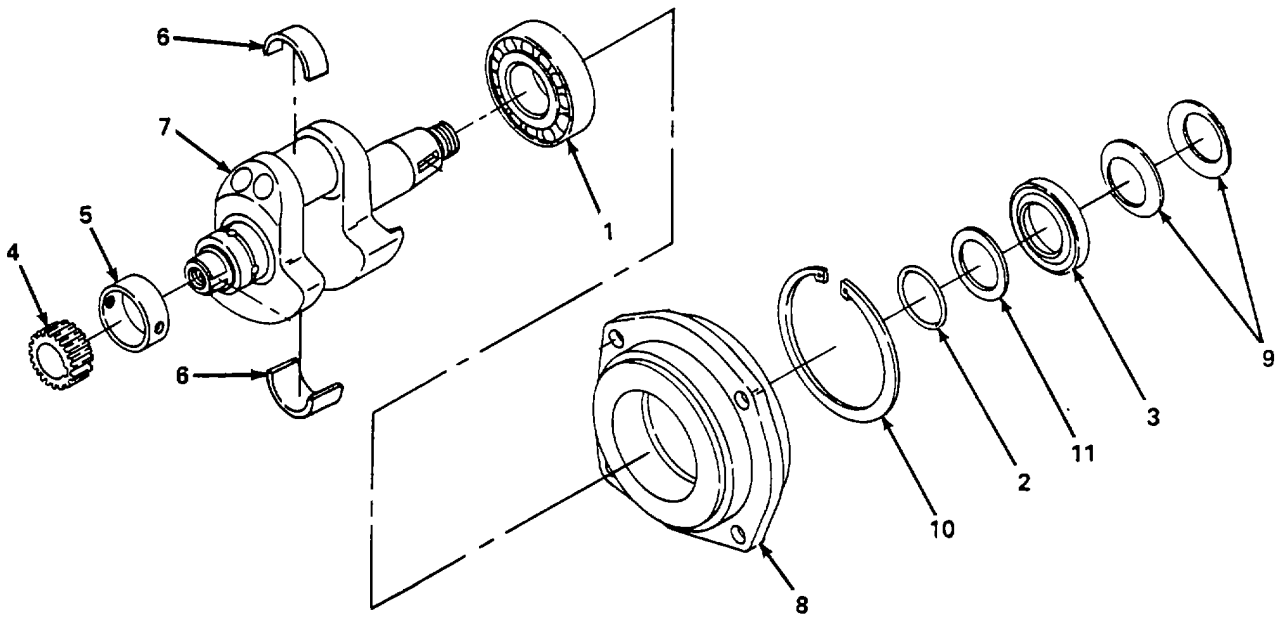

Figure 6-22. Crankshaft, Repair.
- (1) Install oil pump assembly (para. 5-34).
- (2) Install governor assembly (para. 6-17).
- (3) Install oil filter screen (para. 4-31).
- (4) Install piston and connecting rod assemblies (para. 6-20).
- (5) Install flywheel (para. 5-35).
**b. Replace.** (figure 6-22)
- (1) Remove crankshaft (para. a.).
- (2) Clean all items, except bearing (1), preformed packing (2) and oil seal (3) with dry cleaning solvent and dry thoroughly.
- (3) Hold inner race of bearing (1) and turn outer race slowly. Replace bearing (1) if rough or sticking spots are felt.
- (4) Inspect gear (4) and replace if teeth are worn, chipped, or gear is otherwise damaged.
- (5) Inspect bushing (5) and replace if bore diameter is greater than 1.579 in. (40.08 mm).
- (6) Inspect connecting rod bearings (6) and replace if diameter is greater than 1.577 in. (40.020 mm).
- (7) Inspect crankshaft (7) and replace if bearing surface diameter is less than 1.576 in. (39.99 mm) or main bearing surface diameter is less than 1.577 in. (40.02 mm).
- (8) Replace oil seal (3) and preformed packing (2).